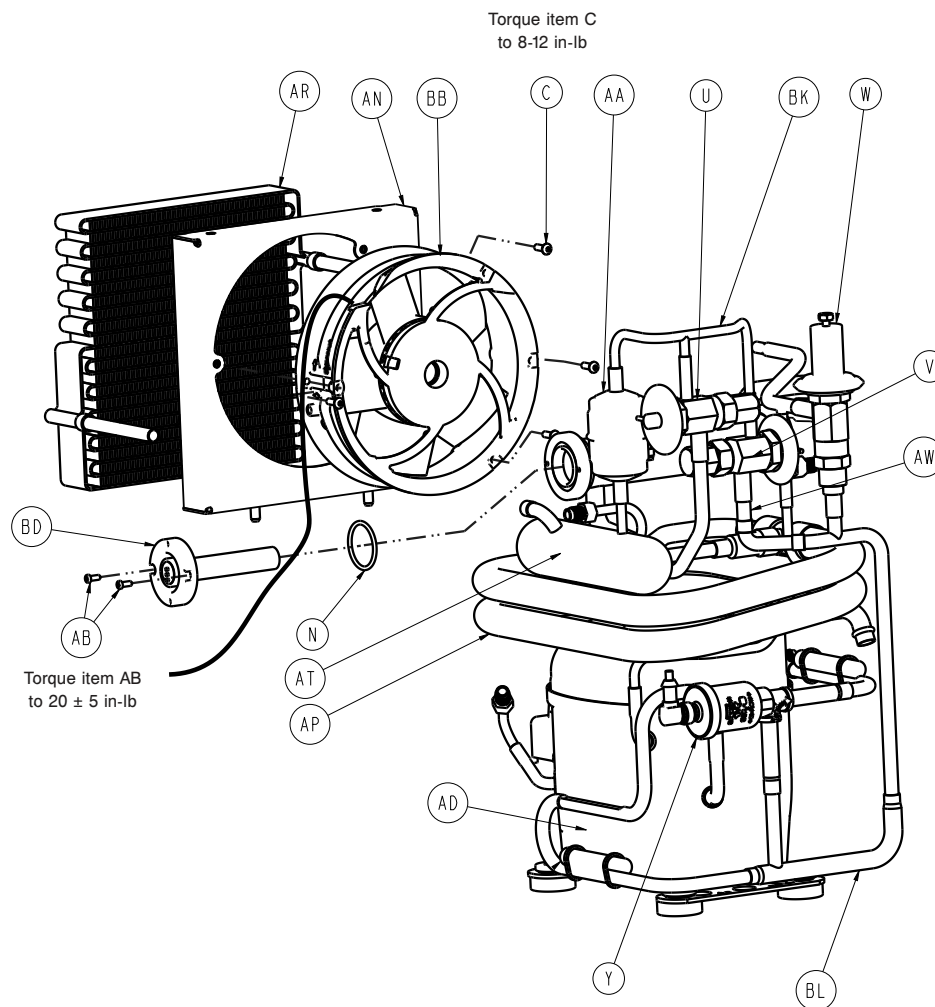

Figure 24: Heater well
23. Using a T10 torx, remove and save the two screws (AB) that secure the heater (BD) to the heater well assembly (Figure 24 on page 36).